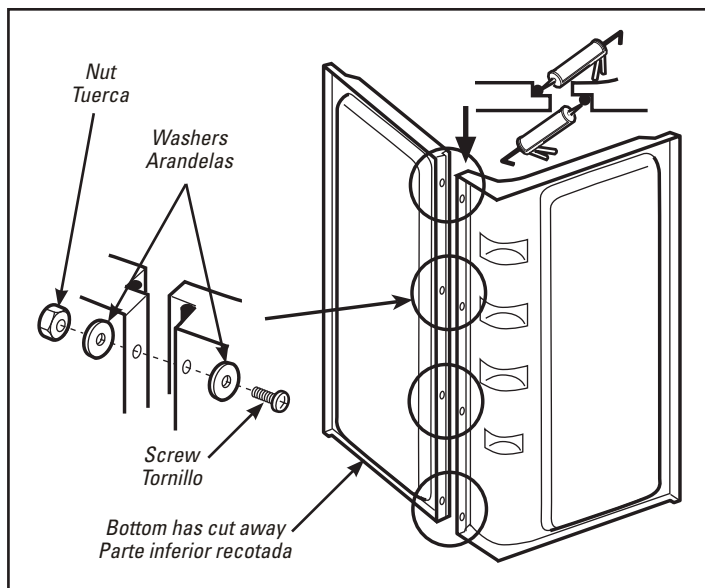

Figure 1/Figura 1
Position the two wall panels as they will go into the corner. Horizontal nailing flanges will be located at the top of both panels. Lower each panel onto the shower alignment locators (Figure 1) to ensure that the panels are lined up correctly in the alcove. Decide which side panel will need cutouts for plumbing fixtures. Carefully locate, mark and cut holes, using the proper size hole saw.
Apply caulk into recess in corners of both panels. Assemble right and left panels. Secure with screws, nuts & washers in fastener pack (24) in 4 places (Figure 1). Check fit before proceeding.